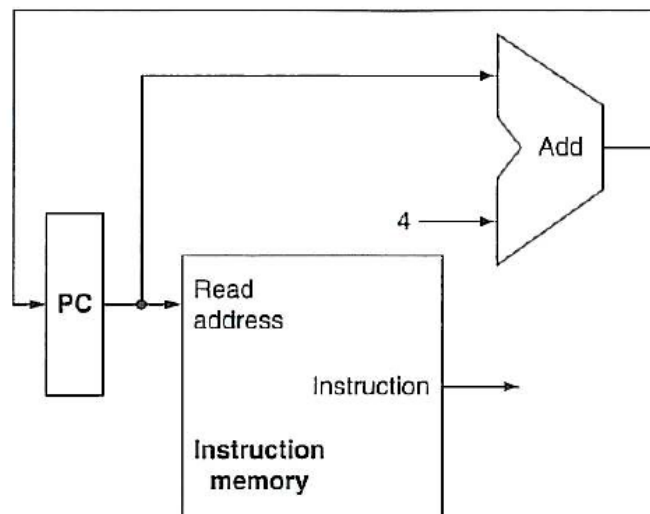
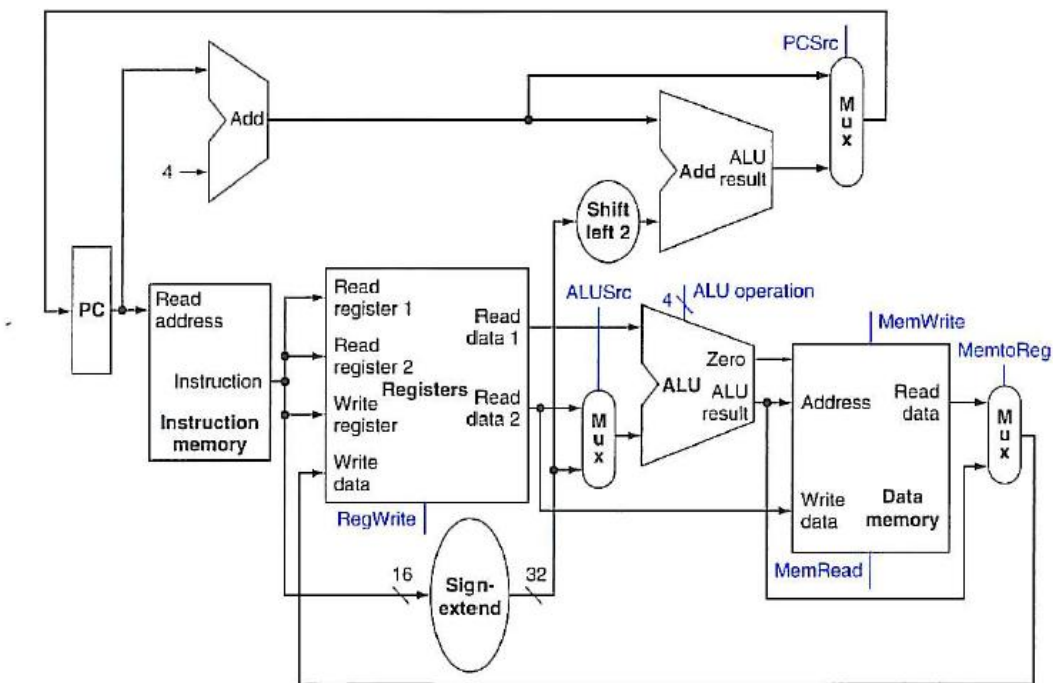

Figure 2
Figure 3
- For the following logic blocks’ latencies, if the only thing we need to do in a processor is fetch consecutive instructions (Figure 2), what would the cycle time be? Consider a datapath similar to the one in Figure 3, but for a processor that only has one type of instruction: unconditional PC-relative branch. What would the cycle time be for this datapath? What if conditional PC-relative branch is the only instruction supported?